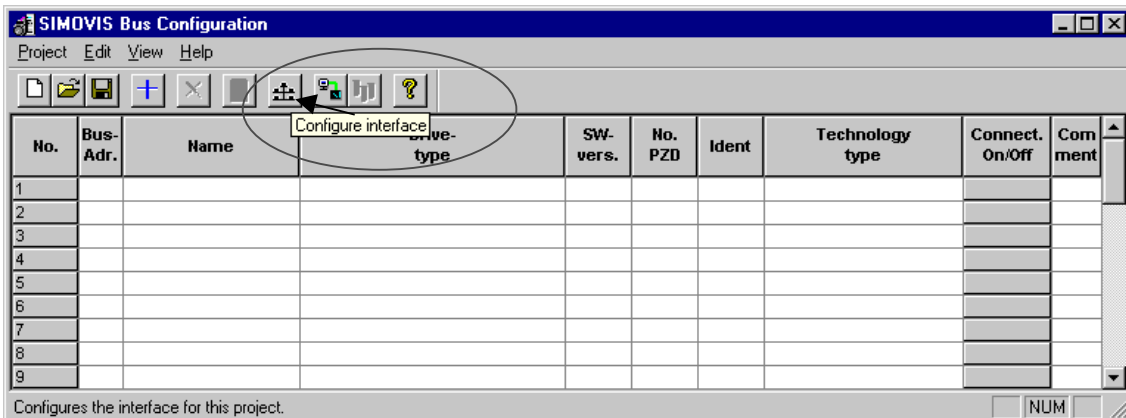
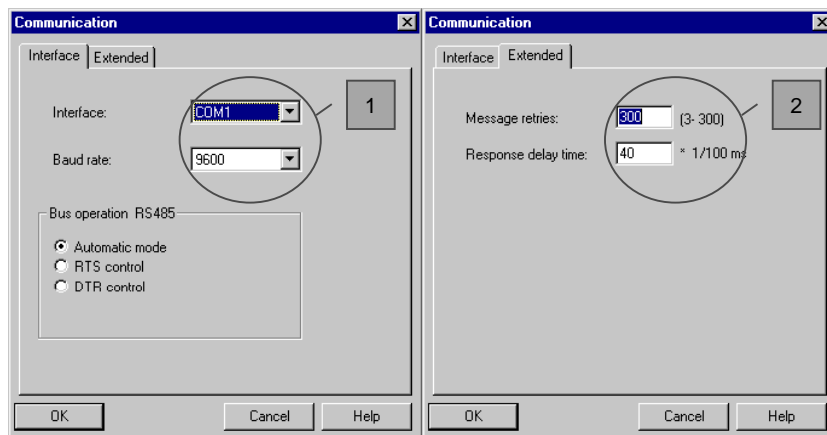

Fig. 5-10 Configuring the interface
Fig. 5-11 Communication
If the toolbar is being displayed, click on button *Configure interface* (see Fig. 5-10) or select the menu command *Edit* → *Interface*. In window "Communication" you can then specify the required COM interface of the PC (COM1 to COM4) and the required baudrate (see Fig. 5-11 [1]).
- ◆ Request repetitions and response timeout on tab card "Extended", (see Fig. 5-11 [2]). Here, you can increase the values already set if communication errors occur frequently.